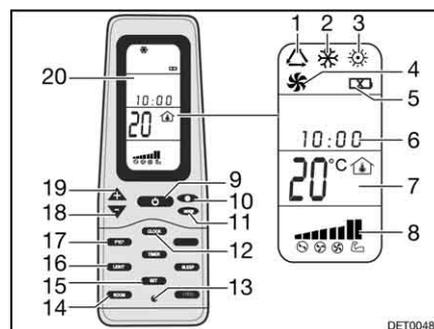

Fig. 177 Remote control
- Press the ON/OFF button (Fig. 177,9).
- Press the "Mode" button (Fig. 177,11) as often as required until the required mode (Fig. 177,1, 2, 3 or 4) is indicated on the display (Fig. 177,20).
- Use the "+" (Fig. 177,19) and "-" (Fig. 177,18) buttons to set the desired temperature.
- Use the fan speed button (Fig. 177,10) to select the desired fan level.